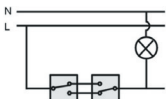

Fig. 6
2. To replace a 2 way switch in a two way circuit. (such as stairs), (See Fig. 6)